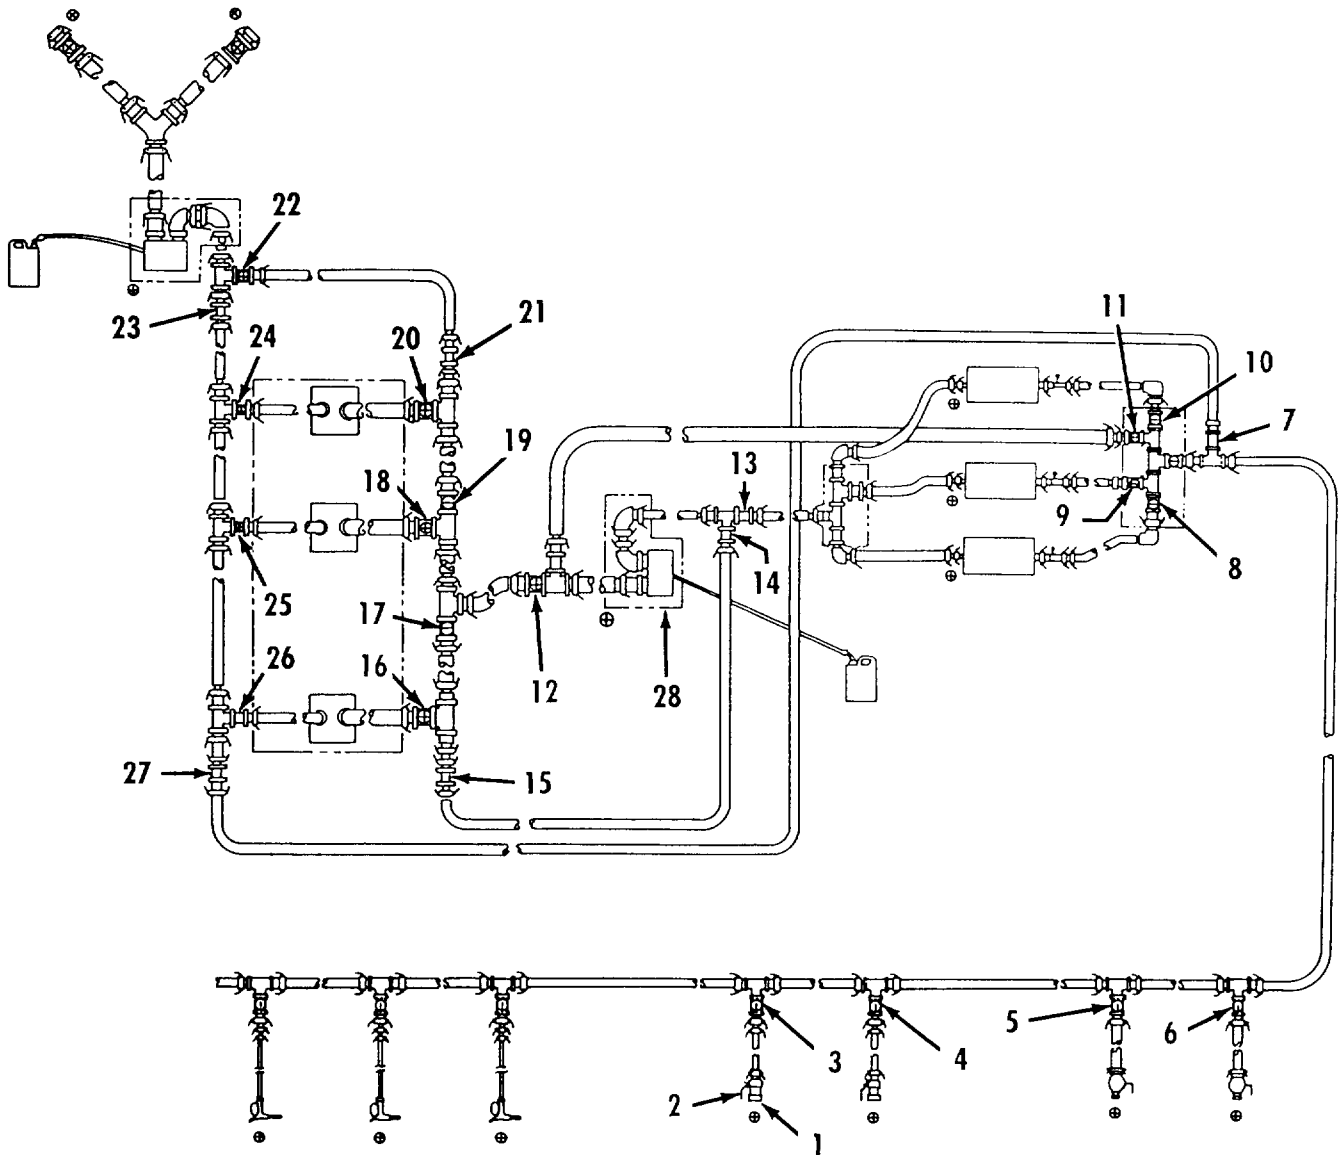

Figure 2-33. Defuel Mode - 4-Inch Ball Valve on Bottom Loading Points.
- (3) Defuel Mode - 4-Inch Ball Valve on Bottom Loading Points. Refer to figure 2-33.